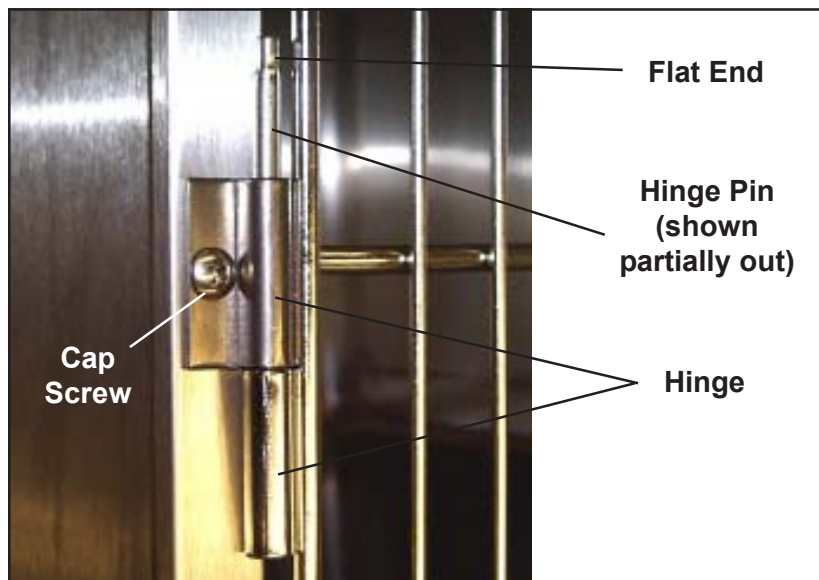

Figure 54. Door Hinge and Hinge Pin
1. Use a punch and a small hammer to drive the existing pin upward, and out of the hinge (Figure 54).
2. With a punch and a small hammer, drive both hinge pins upward, and out of the hinges (Figure 54).
1. With a punch and a small hammer, drive both hinge pins upward, and out of the hinges (Figure 54).
4. Remove the cap screw (Figure 54) that holds the hinge in place and remove the hinge.